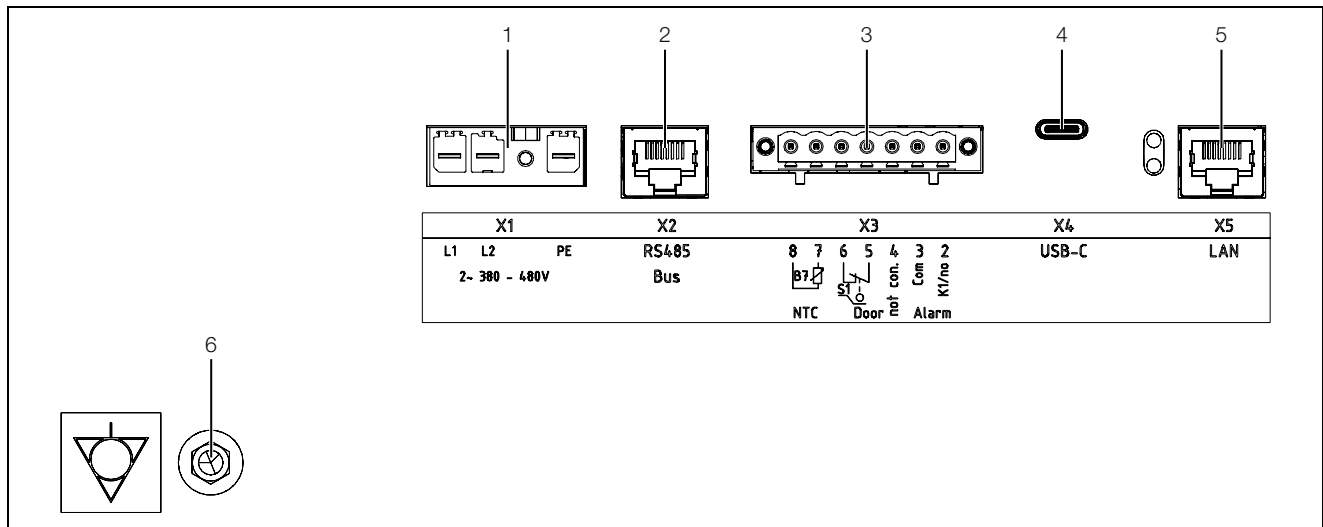

Fig. 43: Mains connection and interfaces
If, for EMC reasons, the unit is to be integrated into the customer's existing potential equalisation system, a conductor may be connected to the potential equalisation connection point. The connection point is labelled with the required switch symbol (fig. 43, item 6).
- The cable shield can be contacted at the potential equalisation point (fig. 43).